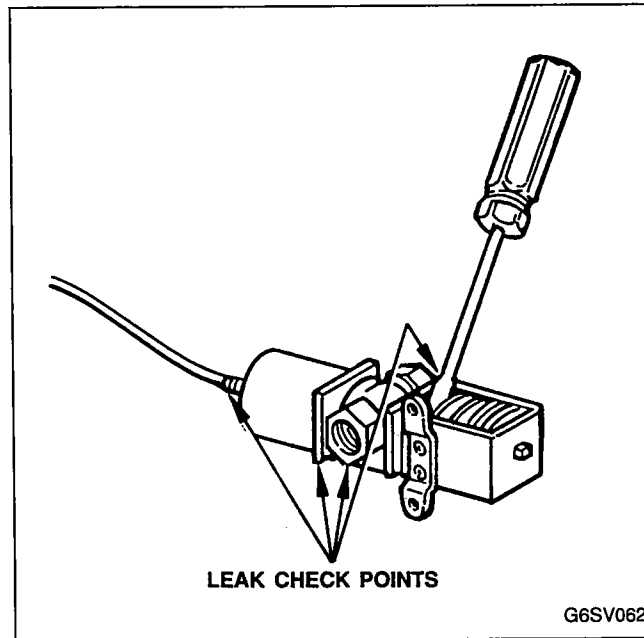

FIGURE 62. WATER REGULATING VALVE LEAK CHECK POINTS
2. Leak check where cap tube meets the bellows housing. See Figure 62.